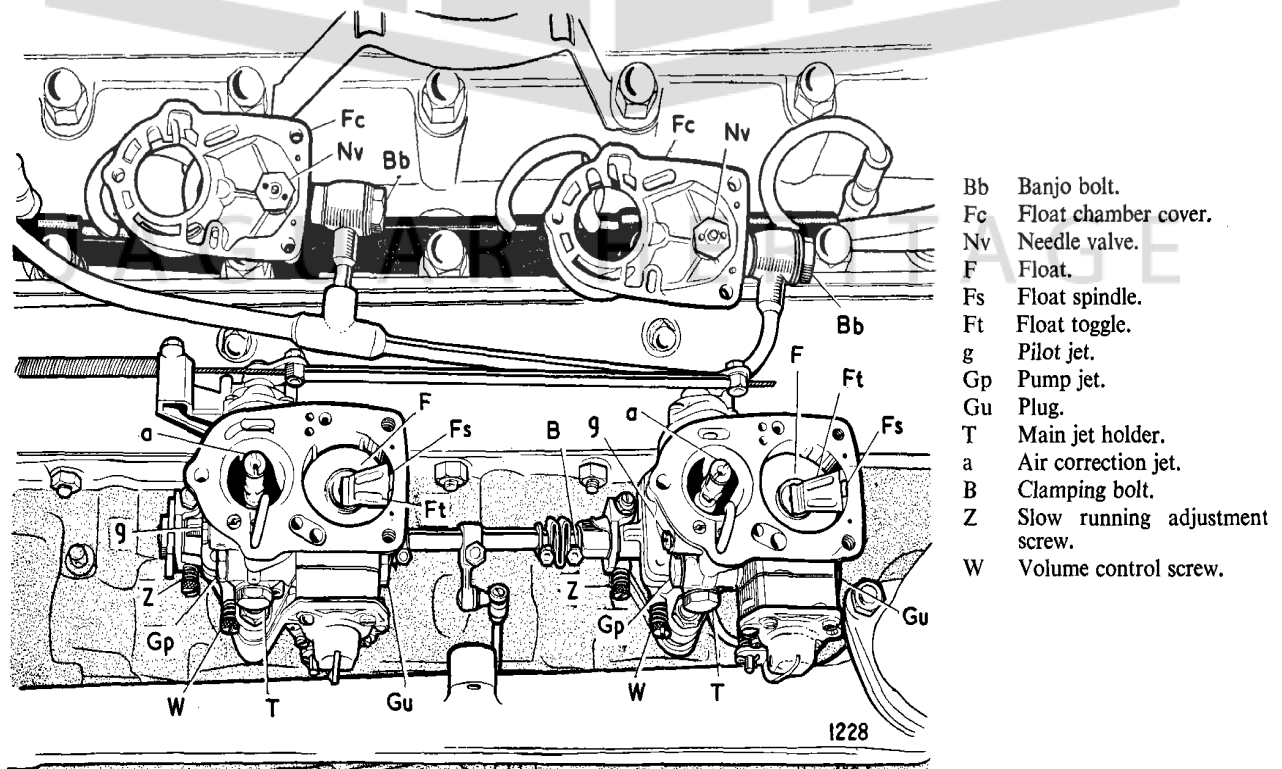

Fig. 5. View of the carburetters with float chamber covers removed.
Remove the air cleaner. Unscrew banjo bolts (Bb) (Fig. 5) and remove filter gauzes.
Each carburettor has two external adjustments, the slow-running adjustment screw (Z) (Fig. 5) and mixture volume control screw (W).
- (1) Switch off the engine and loosen the clamping bolt (B) on the flexible link between the carburettors. Each instrument should now be separately adjusted. Starting with the front carburettor:—
- (2) Unscrew the screw (Z), and ensure the throttle is closed by manual pressure on the slow running screw. Insert a .002" feeler (or strip of paper) between screw (Z) and the casting stop, screw in (Z) until feeler or paper is lightly nipped. Remove feeler and screw in (Z) one further complete turn from this point.